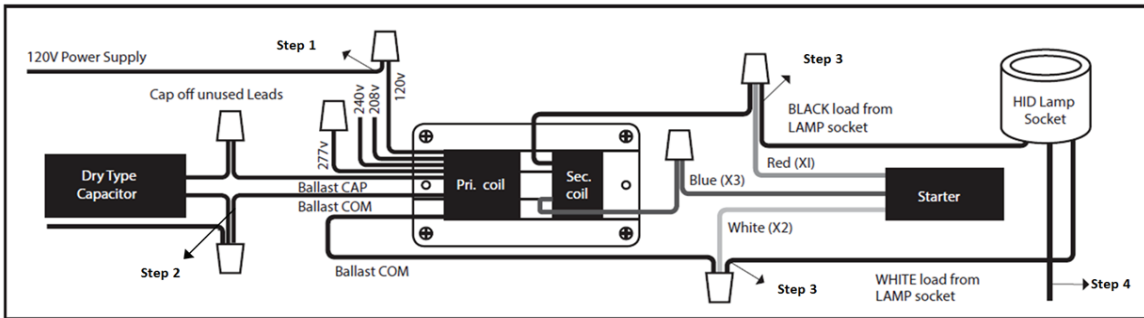

Figure 1: Bypassing the magnetic ballasts; follow steps 1 through 4 in the instructions above to bypass the HID ballast.
3. Follow the steps below to bypass the existing HID ballasts [See Figure 1].
- Step 1: Disconnect Line Voltage (Hot Wire) from the HID ballast as shown in Figure 1.